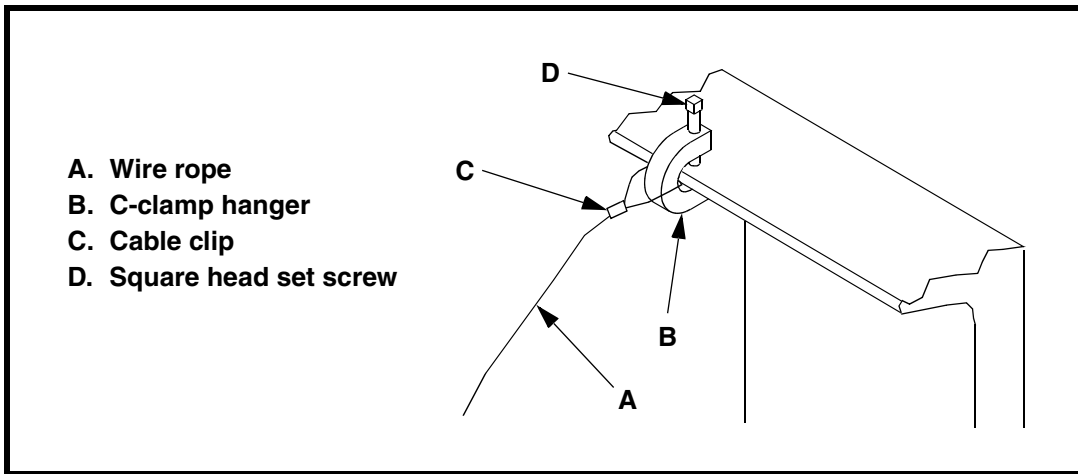

Figure 4. Installing Restraining Cable
1. Loop one end of hanger cable (A, Figure 4) through c-clamp hanger (B) and secure with cable clip (C).